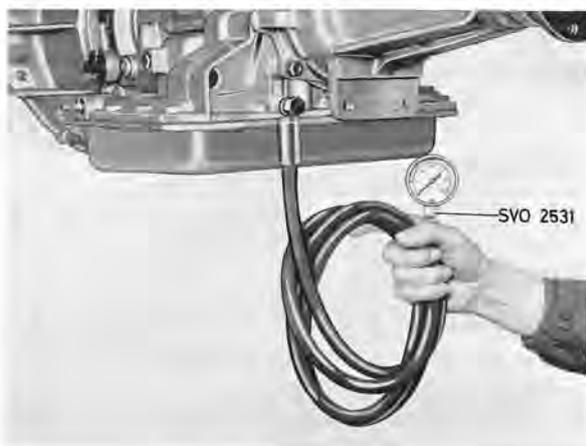

Fig. 4-73. Connecting pressure gauge
1. Connect a tachometer to the engine and pressure gauge to the transmission as shown in Fig. 4-73.
2. Chock the wheels and apply the brakes. Start the engine and move the lever to "D". Read off the pressure at 8.3 and 16.6 r/s (500 and 1000 r/m). At 16.6 r/s (1000 r/m) the gauge to the transmission as shown in Fig. 4-73, pressure should be 1.8—2.1 kp/cm² (25—30 psi) higher than at 8.3 r/s (500 r/m). If the pressure rise is less than 1.8 kp/cm² (25 psi), the effective length of the outer cable should be increased by means of the adjuster. Conversely, if the rise is more than 2.1 kp/cm² (30 psi) the effective length of the outer cable should be decreased.